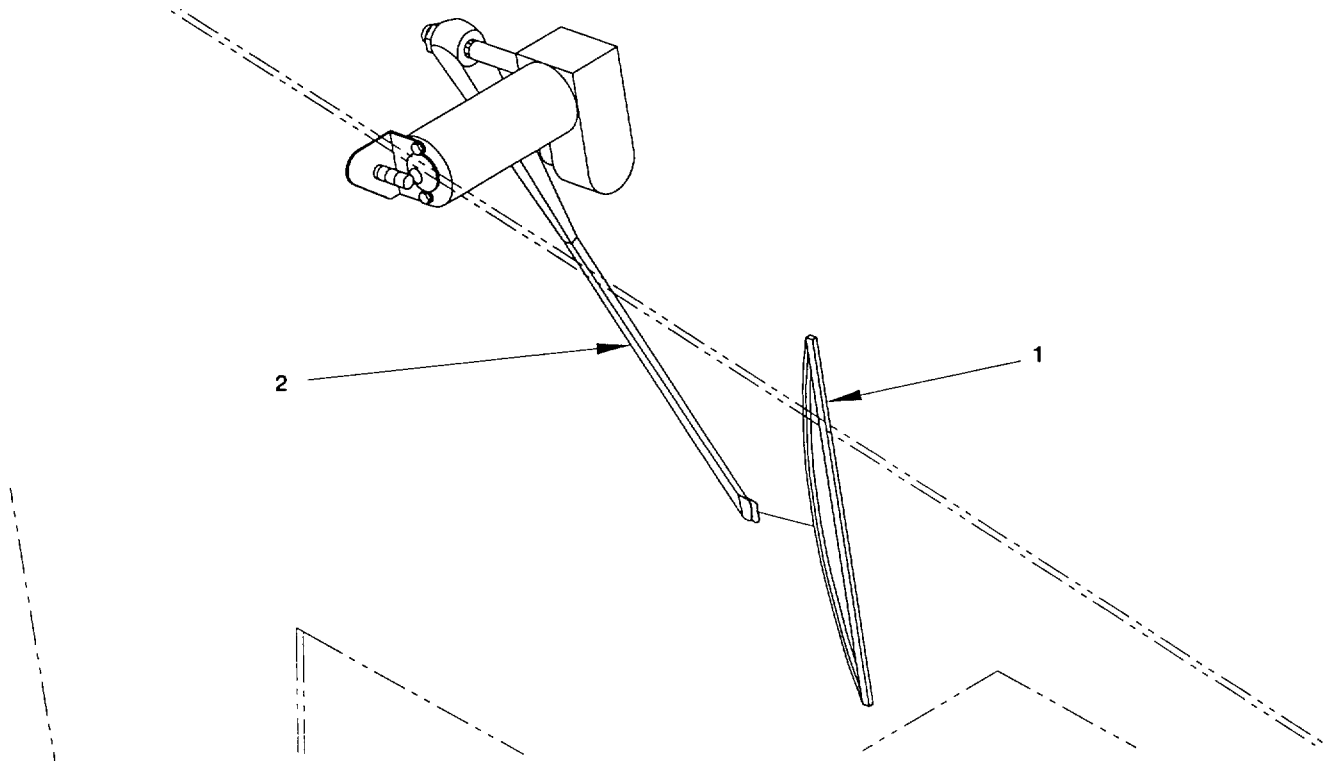

Figure 2-99. Wiper Blade, Remove/Install
a. Remove. (figure 2-99)
b. Install. (figure 2-99)